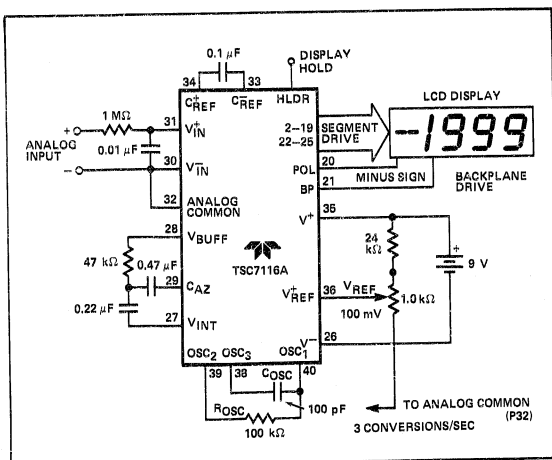
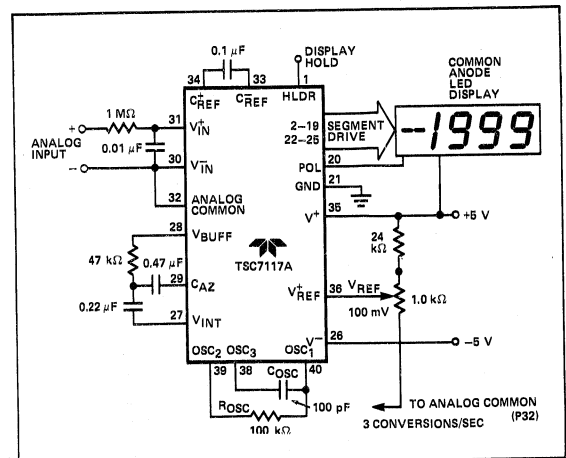

Figure 1: Typical TSC7116A Operating Circuit
Figure 2: Typical TSC7117A Operating Circuit
- Unless other wise noted, specifications apply to both the TSC7116A and TSC7117A at $T_A = 25^\circ\text{C}$, $f_{\text{CLOCK}} = 48\text{ kHz}$. TSC7116A is tested in the circuit of Figure 1. TSC7117A is tested in the circuit of Figure 2.